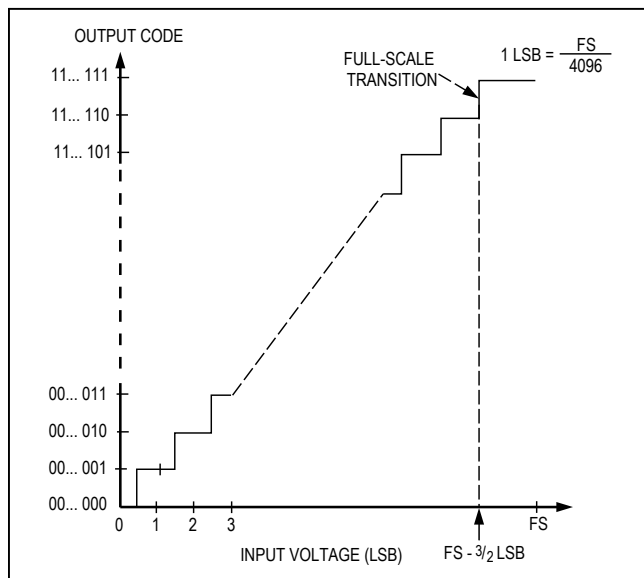

Figure 13a. Unipolar Transfer Function
Output data coding for the MAX127/MAX128 is binary in unipolar mode with  $1 \text{ LSB} = (\text{FS}/4096)$  and two's complement binary in bipolar mode with  $1 \text{ LSB} = [(2 \times |\text{FS}|)/4096]$ . Code transitions occur halfway between successive-integer LSB values. Figures 13a and 13b show the input/output (I/O) transfer functions for unipolar and bipolar operations, respectively. For full-scale (FS) values, refer to Table 3.